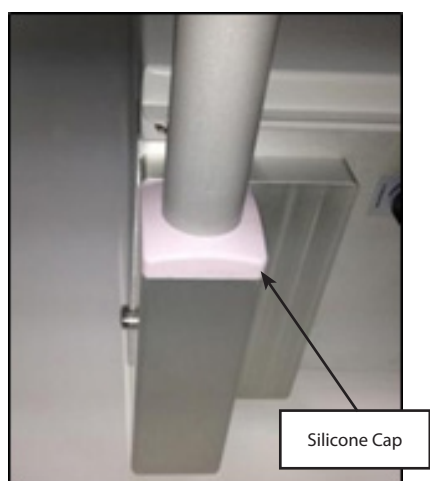

Figure 9
6. Slide the silicone cap down the pole and place over the pole mount bracket to prevent ingress of liquid into the pole mount cavity (Fig. 9).